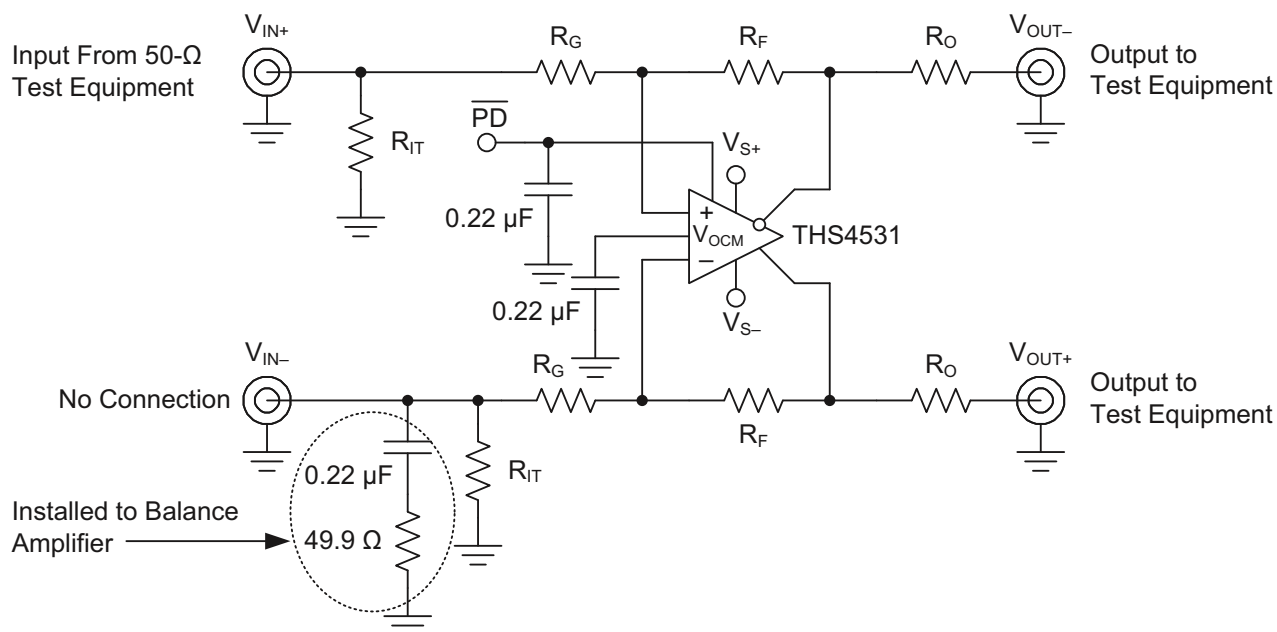
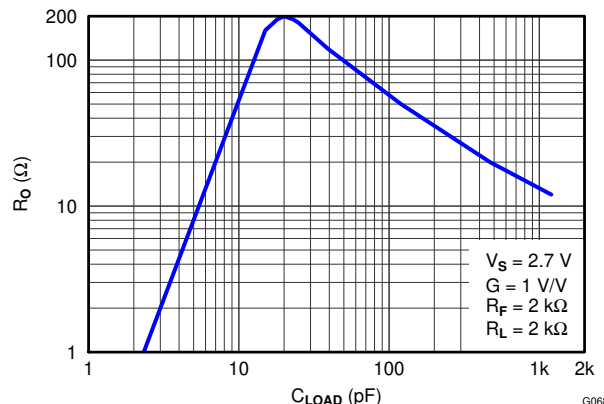
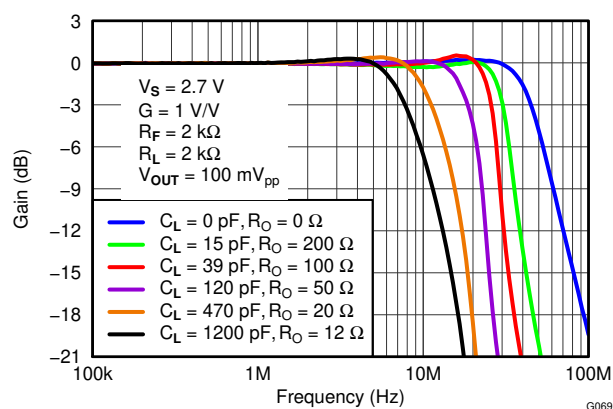

Figure 69. Slew Rate, Transient Response, Settling Time, Z_O , Overdrive Recovery, V_{OUT} Swing, and Turn-On and Trun-Off Test Circuit
Figure 78. Recommended Series Output Resistor vs Capacitive Load for Flat Frequency Response
Figure 79. Frequency Response for Various R_O and C_L Values
The circuit shown in Figure 69 is used to measure slew rate, transient response, settling time, overdrive recovery, and output voltage swing. Turn-on and turn-off times are measured with 50 Ω input termination on the \overline{PD} input, by replacing the 0.22 μ F capacitor with 49.9 Ω resistor.
Inserting R_O will compensate the phase shift and restore the phase margin, but it will also limit bandwidth. The circuit shown in Figure 69 is used to test for best R_O versus capacitive loads, C_L , with a capacitance placed differential across the V_{OUT+} and V_{OUT-} along with 2 k Ω load resistor, and the output is measure with a differential probe. Figure 78 shows the optimum values of R_O versus capacitive loads, C_L , and Figure 79 shows the frequency response with various values. Performance is the same on both 2.7 V and 5 V supply.
4. A series output resistor is recommended to be placed as near to the output pin as possible. See Figure 78 Recommended Series Output Resistor vs. Capacitive Load for recommended values given expected capacitive load of design.